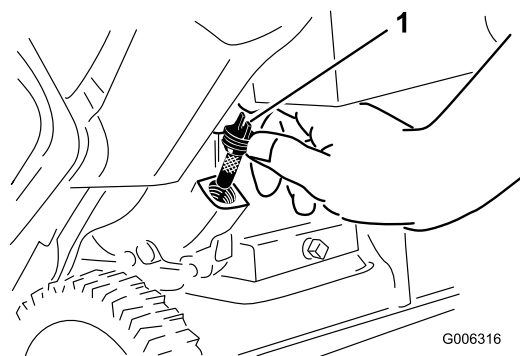

Figure 10
2. Clean around the oil fill cap (Figure 10).